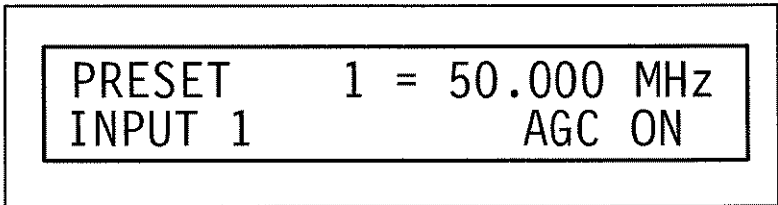

Figure 2–7: Preset Default Settings
1. When AGC is ON, the word DELAY will appear in the menu. Press the up or down key to sequence through the menu until DELAY is flashing. The display will be similar to Figure 2–5. (The first line may vary, depending on the tuning selection.)
1. When AGC is OFF, the word ATTENUATION will appear in the menu. Press the up or down key to sequence through the attenuation options (total, IF, and RF). The display will be similar to Figure 2–6.
- d. Press the enter key. Now ON will flash. Use the up or down key to change the setting to OFF. Press the enter key to accept the selection. The display will look like Figure 2–8, with IF flashing.
- a. Press the enter key. If TUNING is set to PRESET, the display will be similar to Figure 2–7, with the preset number flashing. If TUNING is set to CH or FREQ, the procedure is the same, but the display will differ slightly.